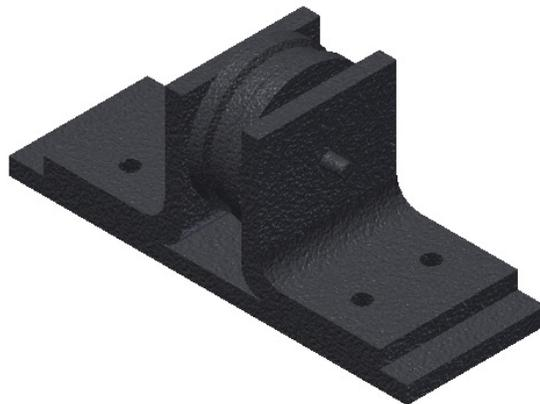
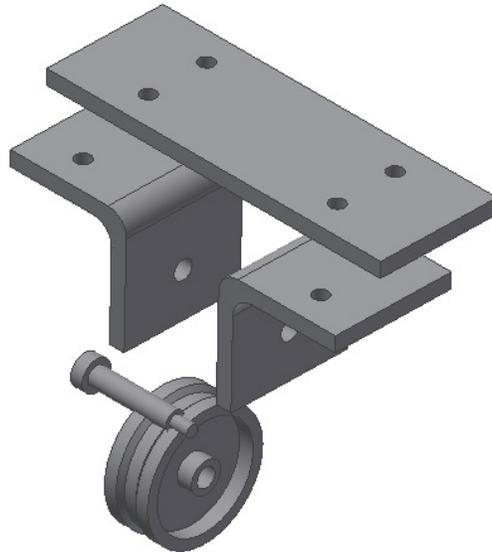
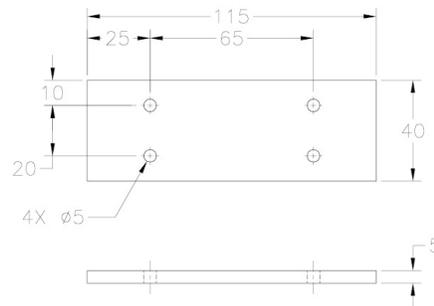

Figure 18-63 The assembly model for Tutorial 3
Figure 18-64 The exploded view of the assembly
Figure 18-65 The dimensions for the Base
In this tutorial, you will carry out static and modal analysis of the Wheel Support assembly, as shown in Figure 18-63. The exploded view of the assembly is shown in Figure 18-64. The dimensions and boundary conditions of the assembly parts are shown in Figures 18-65 through 18-68.
1. Create all the components of the wheel support assembly as separate part files. Next, save the files with their respective names, refer to Figures 18-65 through 18-68. The files should be saved at location *C:\Inventor\c18\Tutorial3*.